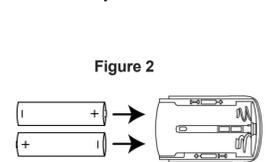

Figure 2
- Insert two new 1.5 volt AAA-size batteries. Follow the polarity markings (+ and -) as illustrated in **Figure 2**. *Proper positioning of the batteries is essential for operation.*